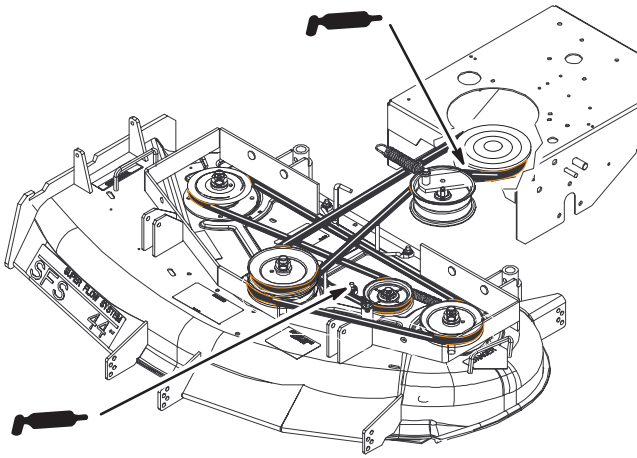

Figure 34
- Grease the idler pulley pivots (Fig. 34).